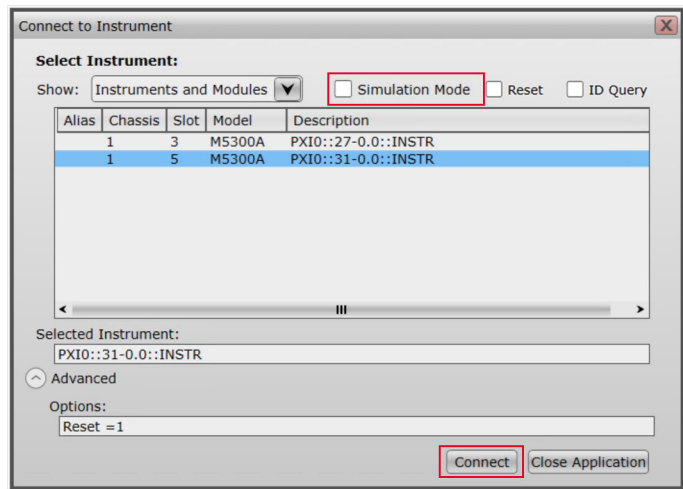

Figure 34 Connect to Instrument with “Simulation Mode” disabled
- ‘Simulation mode’ disabled—This is the active mode of SFP operation and is available when the **Simulation Mode** check box is manually cleared. The **Simulate** button is replaced with the **Connect** button on the **Connect to Instrument** window, as shown in Figure 34. In this mode, only the active modules are displayed along with the respective chassis number, slot number and VISA address.